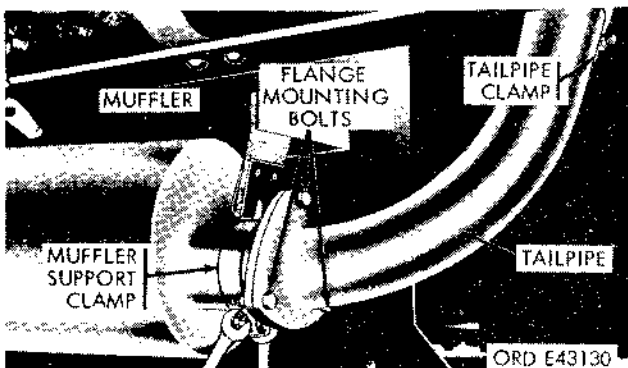

Figure 2-115. Muffler support and tailpipe.
(Fig. 2-115.)
(1) Remove the four nuts and bolts securing the muffler front flanged end to the exhaust pipe.
(2) Remove the three nuts and bolts securing the muffler to the tailpipe (fig. 2-115).
(3) Unscrew the two nuts and bolts securing the muffler support clamp (fig. 2-115) around the muffler. Spread the clamps apart and remove the muffler.
(1) Place a new gasket on the exhaust pipe flange. Position the muffler front flange end to the exhaust pipe with four bolts and nuts.
(2) Using a new gasket, secure the muffler to the tailpipe with three bolts and nuts (fig. 2-115).
(3) Spread the muffler support clamp apart, and slip it around the muffler, securing it with two bolts and nuts (fig. 2-115).